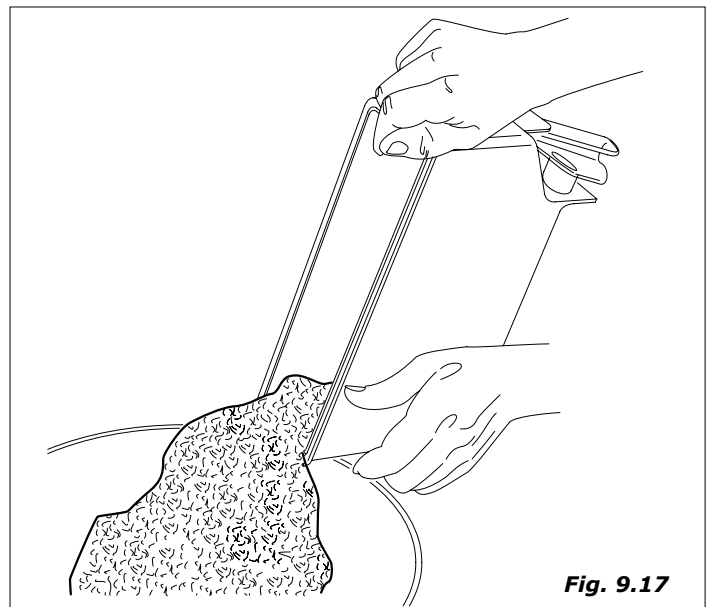

Fig. 9.17
- unload all the product from the containers (Fig. 9.17)